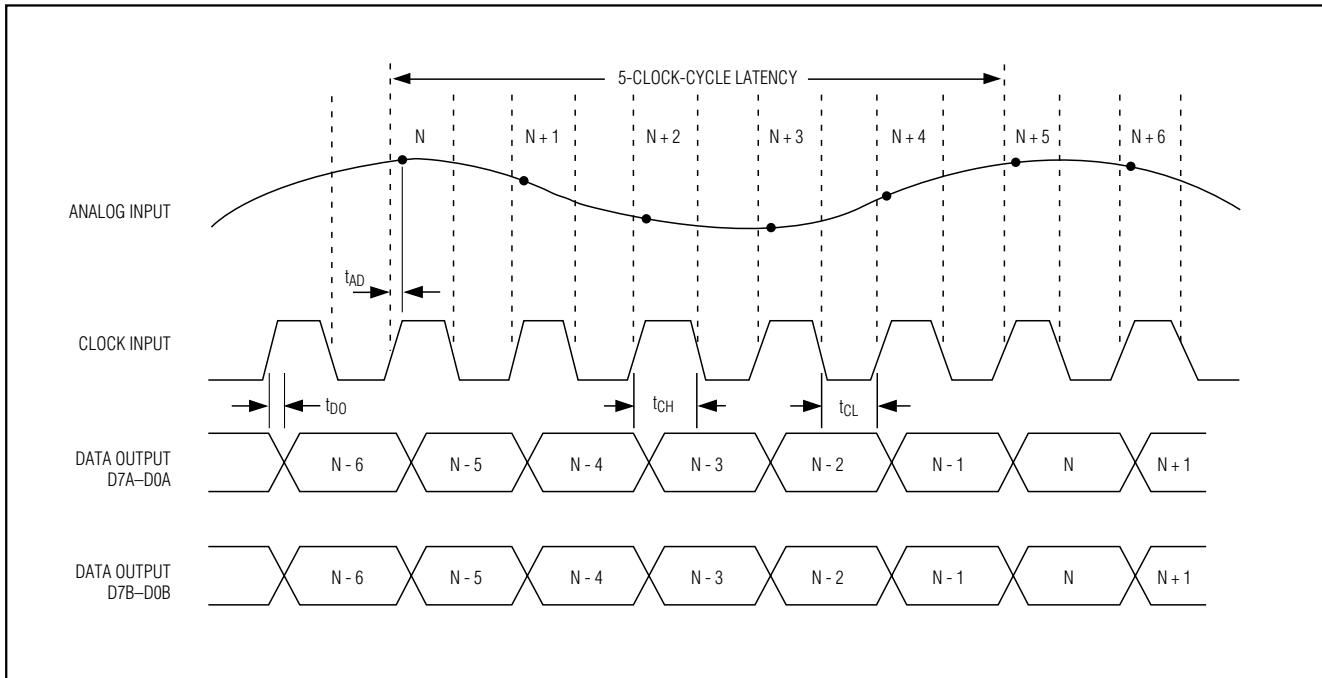

Figure 3. System Timing Diagram
**Note 7:** See Figure 3 for detailed system timing diagrams. Clock to data valid timing is measured from 50% of the clock level to 50% of the data output level.
Figure 3 depicts the relationship between the clock input, analog input, and data output. The MAX1197 samples at the rising edge of the input clock. Output data for channels A and B is valid on the next rising edge of the input clock. The output data has an internal latency of five clock cycles. Figure 3 also determines the relationship between the input clock parameters and the valid output data on channels A and B.